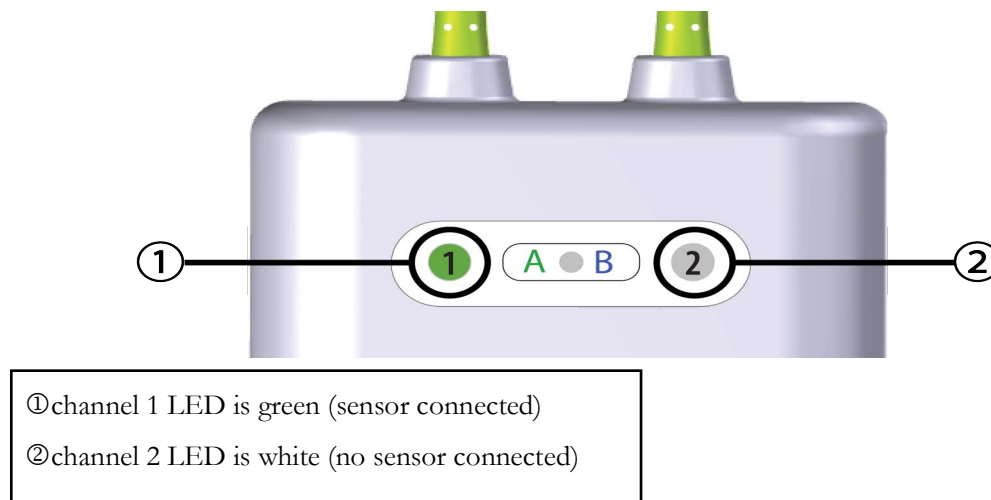

Figure 10-14 Connecting a sensor to the ForeSight oximeter cable – channel status LED
- 6 Verify that the channel status LED indicator on the ForeSight oximeter cable changes from white to green when the sensor is fully connected. See figure 10-14.